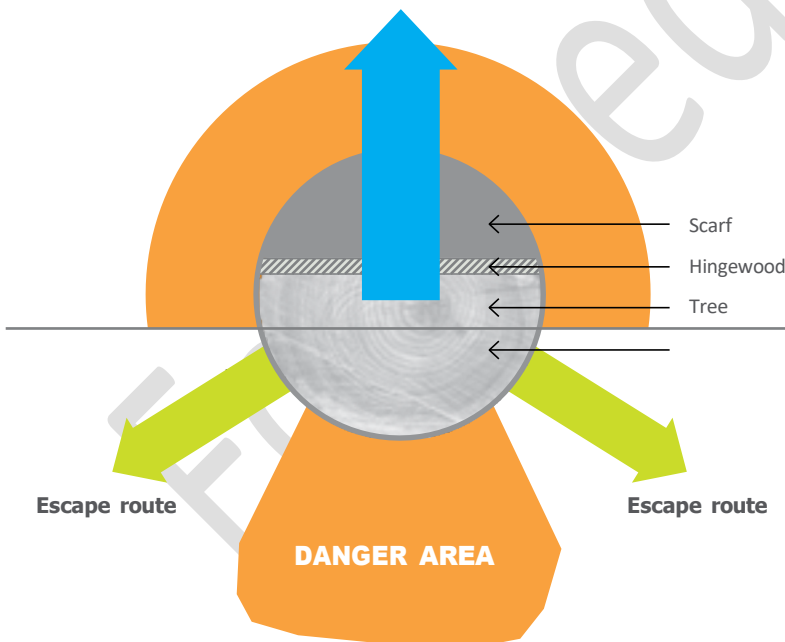

Figure 10: Escape route positioning (placeholder)
- Always think about your escape route before you begin any felling cuts. Where possible, the escape route should be at a 45-degree angle opposite the felling direction (see Figure 10).